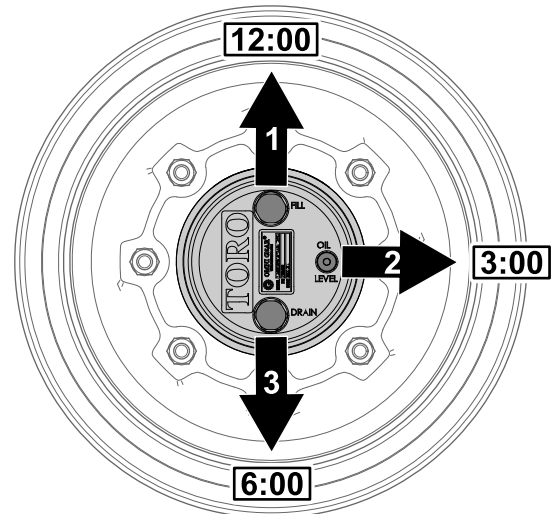

Figure 72
1. Park the machine on level surface and position the wheel so that the fill plug is at the 12 o'clock position, the check plug is at 3 o'clock position, and the drain plug is at the 6 o'clock position (Figure 72).
2. Remove the check plug at the 3 o'clock position (Figure 72).
1. Park the machine on level surface, position the wheel so that the fill plug is at the 12 o'clock position, the check plug is at 3 o'clock position, and the drain plug is at the 6 o'clock position; refer to Figure 72 in Checking the Planetary Gear-Drive Lubricant (page 69).